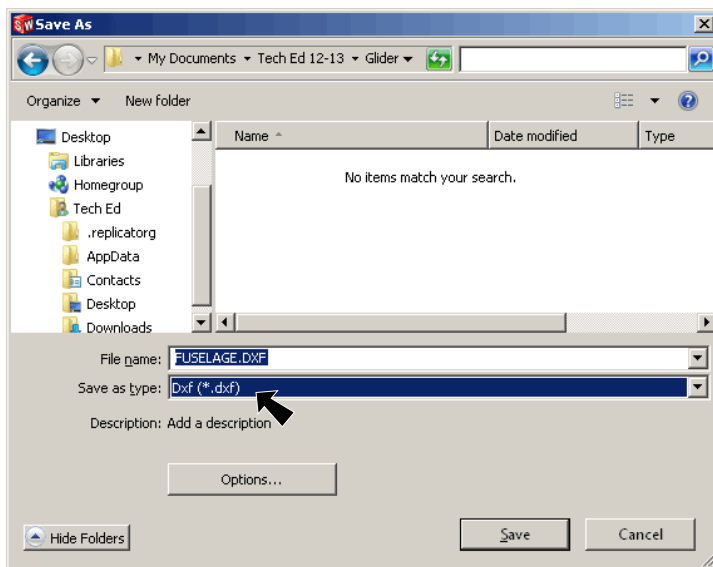

Fig. 4
Step 6. In the Save As dialog box, change **Save as type:** to **Dxf** and click **Save**, **Fig. 4**.